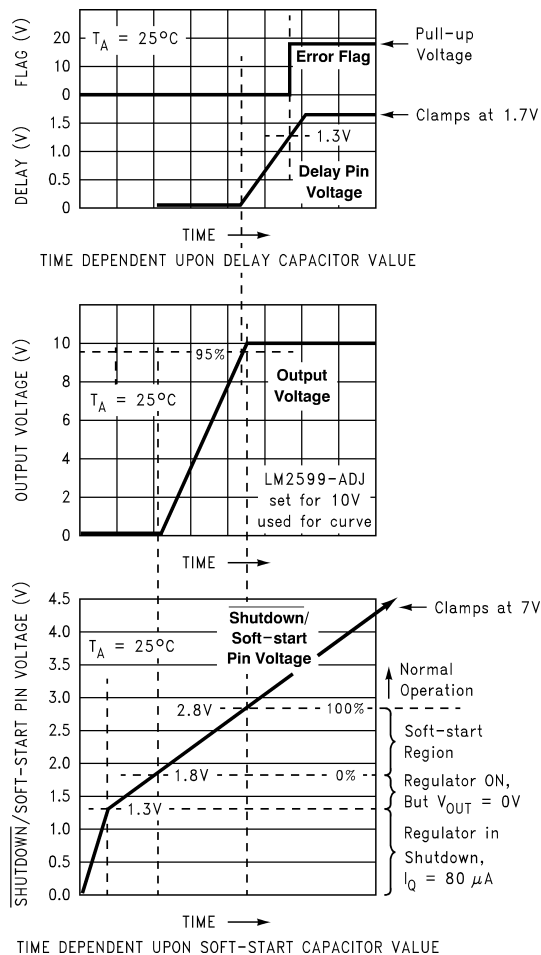
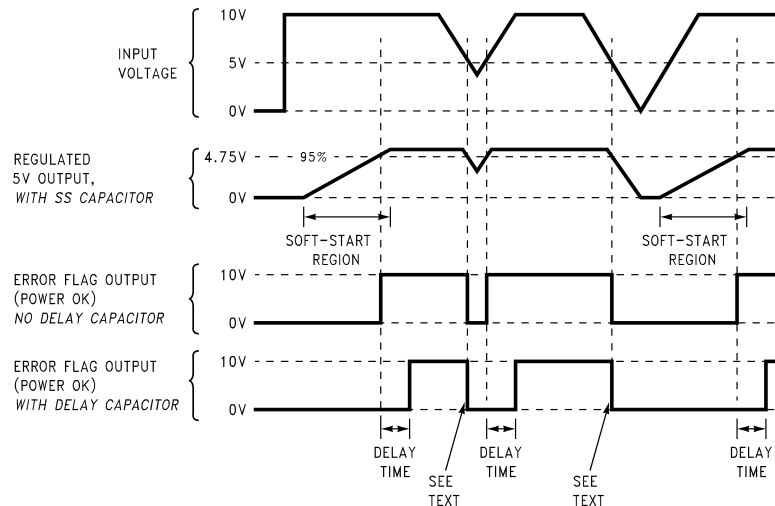

Figure 29. Soft-start, Delay, Error, Output
Figure 30. Timing Diagram for 5V Output
C_{SS} — A capacitor on this pin provides the regulator with a Soft-start feature (slow start-up). When the DC input voltage is first applied to the regulator, or when the Shutdown /Soft-start pin is allowed to go high, a constant current (approximately $5\ \mu A$) begins charging this capacitor). As the capacitor voltage rises, the regulator goes through four operating regions (See the bottom curve in Figure 29).
3. **Soft-start Region.** When the $\overline{SD}$ /SS pin voltage is between 1.8V and 2.8V (@ $25^{\circ}C$), the regulator is in a Soft-start condition. The switch (Pin 2) duty cycle initially starts out very low, with narrow pulses and gradually get wider as the capacitor $\overline{SD}$ /SS pin ramps up towards 2.8V. As the duty cycle increases, the output voltage also increases at a controlled ramp up. See the center curve in Figure 29. The input supply current requirement also starts out at a low level for the narrow pulses and ramp up in a controlled manner. This is a very useful feature in some switcher topologies that require large startup currents (such as the inverting configuration) which can load down the input power supply.
Note: The lower curve shown in Figure 29 shows the Soft-start region from 0% to 100%. This is not the duty cycle percentage, but the output voltage percentage. Also, the Soft-start voltage range has a negative temperature coefficient associated with it. See the Soft-start curve in the Electrical Characteristics section.
C_{DELAY} — Provides delay for the error flag output. See the upper curve in Figure 29, and also refer to timing diagrams in Figure 30. A capacitor on this pin provides a time delay between the time the regulated output voltage (when it is increasing in value) reaches 95% of the nominal output voltage, and the time the error flag output goes high. A 3 μ A constant current from the delay pin charges the delay capacitor resulting in a voltage ramp. When this voltage reaches a threshold of approximately 1.3V, the open collector error flag output (or power OK) goes high. This signal can be used to indicate that the regulated output has reached the correct voltage and has stabilized.